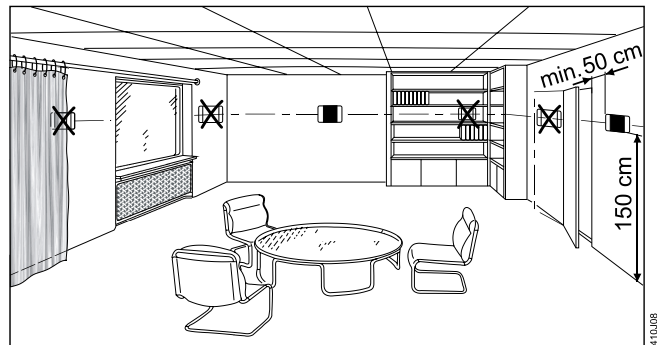

Figure 9: Installation instructions for sensors and temperature controllers
**Mounting site (see Fig. 9)**